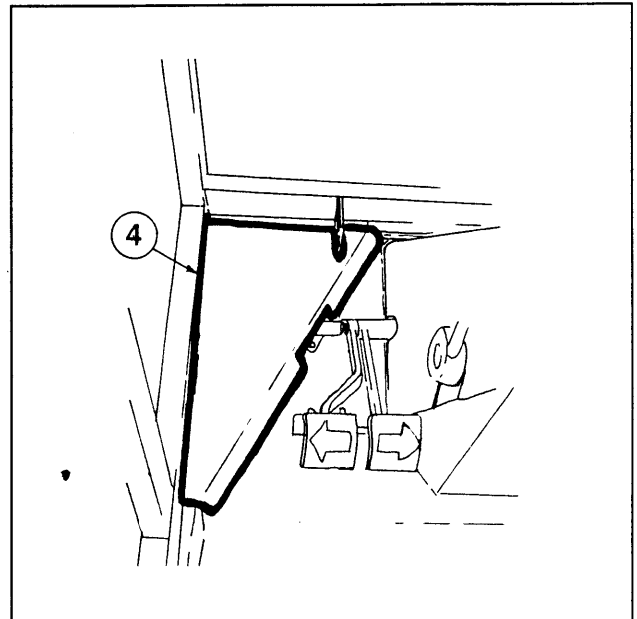

Figure 8
11. Take the left platform extension (4) and position it against the top of the operator foot platform and cab shield support, in the left, front corner of the cab. Drill two 9/32" dia. holes through the extension and each of the support and platform. Bolt the extension to the support and platform using the 1/4"x3/4" hex bolts, whiz nuts, and 5/16" flatwashers supplied. (see Figure 8)